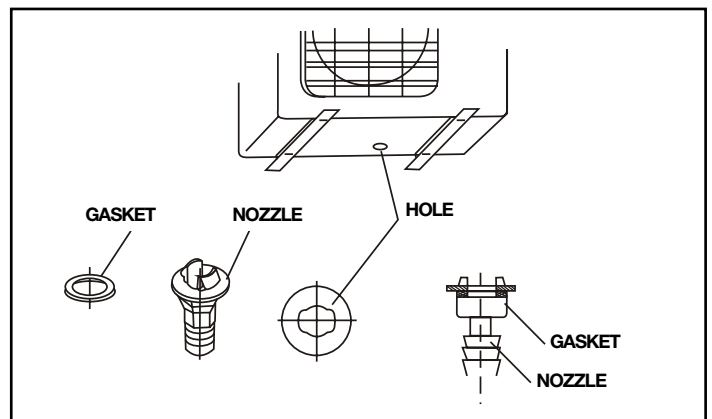

fig.11
3. Connect the pipe to a flexible drainage hose (not supplied) to carry the condensation to the required point (fig. 11).